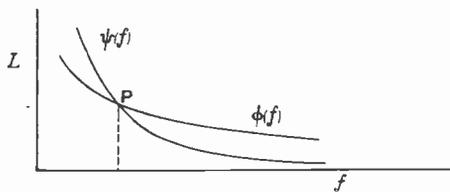

Fig. 14a.
while  $L = \phi(f)$  is calculated from the formulæ previously given as (17) and (18). If the two functions  $\psi(f)$  and  $\phi(f)$  are plotted on the same sheet they will be found to intersect as at P, Fig. 14a, and the frequency corresponding to this intersection point will be the frequency at which the circuit will stabilise in free oscillation. In any particular design the natural frequencies  $f_1$  and  $f_2$  are thus determined.